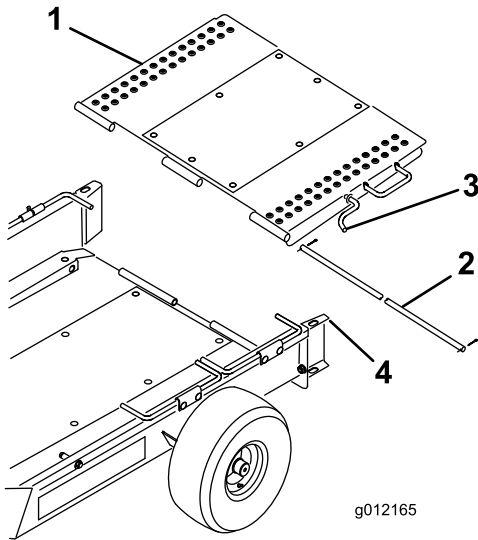

Figure 4
4. Mount the trailer ramp to the rear of the trailer bed with the hinge rod and 2 cotter pins (Figure 4).
5. Pivot the trailer ramp upward and hook the ramp latch into the hole in the top of the wheel guide (Figure 4).
7. Pivot the trailer ramp upward and hook the ramp latch into the hole in the top of the wheel guide (Figure 4).